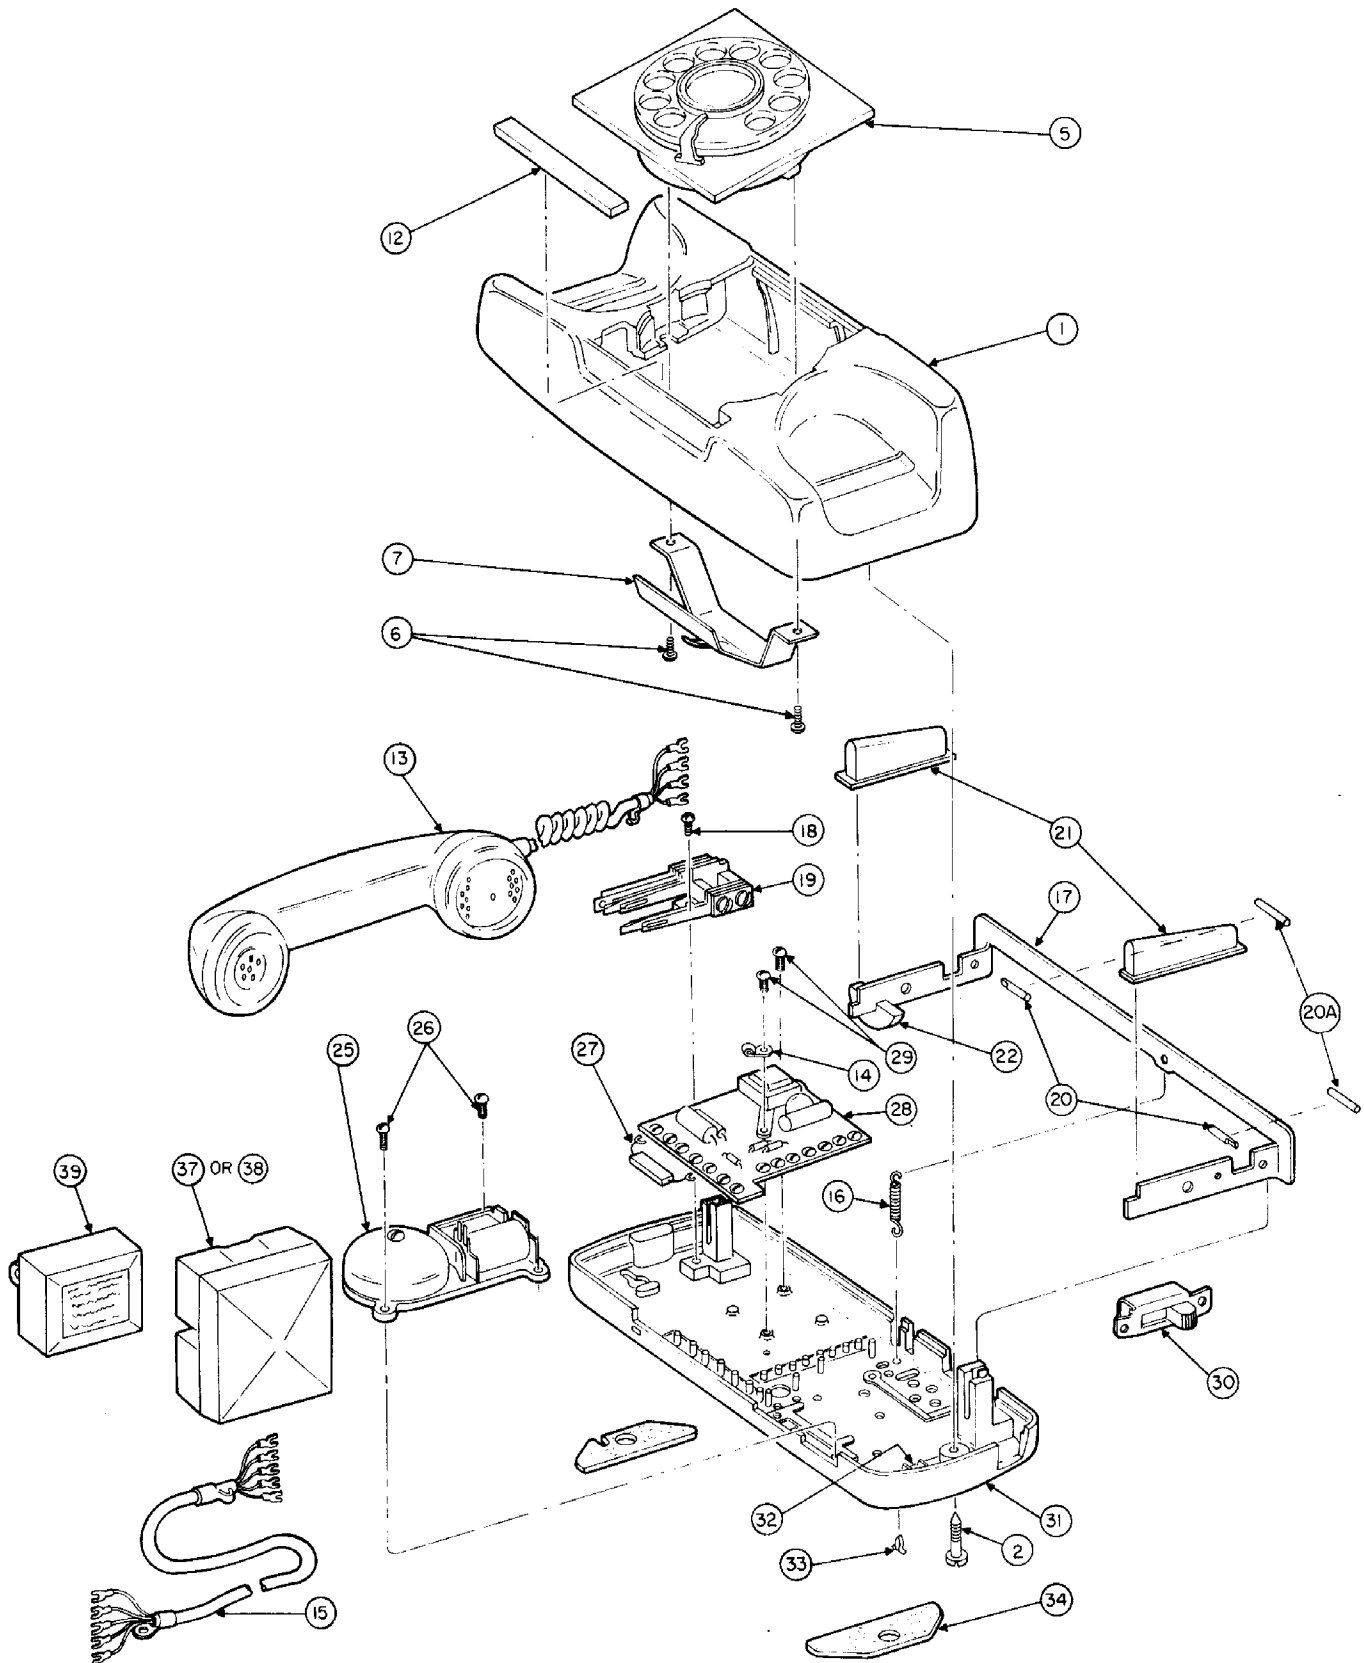

Figure 3. Exploded View of the Type 182A Desk Telephone.
- NOTES: 1. The item numbers in Table 1 refer to the item numbers shown in Figures 3, 4, 5, and 6.
NOTES: 1. The item numbers in Table 1 refer to the item numbers shown in Figures 3, 4, 5, and 6.
NOTES: 1. The item numbers in Table 4 refer to the item numbers shown in Figures 3 and 4.
3.06 To remove the rotary dial (item 5), refer to Figures 3 and 7 and Table 2 and 3 and proceed as follows:
- (a) Disconnect the dial leads from the transmission network (item 28) terminals and baseplate terminals.
- (b) Remove the two dial mounting screws (item 6) and the rotary dial guard and mounting bracket (item 7).
3.11 To remove the handset (item 13), refer to Figures 3 and 4 and proceed as follows:
- (a) Remove the handset cord from under the cord clamp (item 14).
3.12 To remove the line cord (item 15), refer to Figure 3 and proceed as follows:
3.13 To remove the hookswitch assembly (items 16 through 19), refer to Figures 3 and 4 and proceed as follows:
- (a) Unhook the hookswitch coil spring (item 16) from the hookswitch lever (item 17).
- (d) Remove the screw (item 18) and lift the hookswitch spring and bracket assembly (item 19) from the mounting post.
3.14 To further disassemble the hookswitch assembly, refer to Figures 3 and 4 and proceed as follows:
- (a) Slip the ends of the bearing pins (items 20 and 20a) out of the holes in the hookswitch lever (item 17).
- (b) For the Type 182A telephone, lift the plungers (item 21) and the buffer (item 22) off the hookswitch lever.
- (c) For the Type 192A telephone, lift the plunger (item 23) and bearing pin (item 14) off of the telephone housing.
4.06 To install the hookswitch assembly, refer to Figures 3, 4, 7, 8, and 9 and Tables 5 and 6 and proceed as follows:
- (a) Position the buffer (item 22) under the left side or upper arm of the hookswitch lever (item 17).
- (b) On the Type 182A telephone only, place the plungers (item 21) on the upper side of the arms of the hookswitch lever.
- (c) Position the hookswitch spring and bracket assembly (item 19) over the retaining post and secure it with the screw.
- (e) Insert the pins (items 20 or 20a) in the pivot hole of the hookswitch lever.
- (g) Hook the coil spring (item 16) between the spring clip and the hookswitch lever.